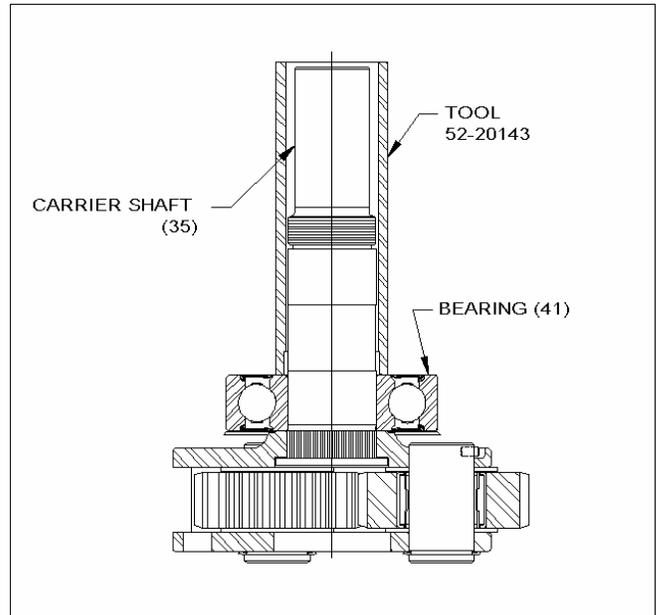

Figure 23. Pressing Rear Bearing onto Carrier Shaft
Press rear bearing (41) onto carrier shaft (35) using TDI Tool P/N 52-20143 per *Figure 23*. Pressing force should be on the inner race of bearing.